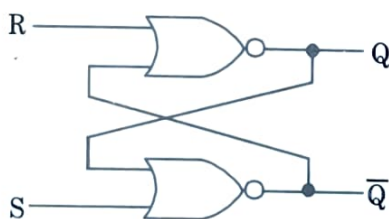

Fig. 3.17.1.
1. The gate-level schematic of the SR latch consisting of two NOR gates are shown in Fig. 3.17.1.